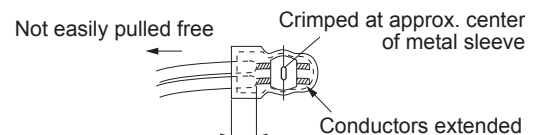

Fig.7
- e) Check the four points noted in Fig.7.